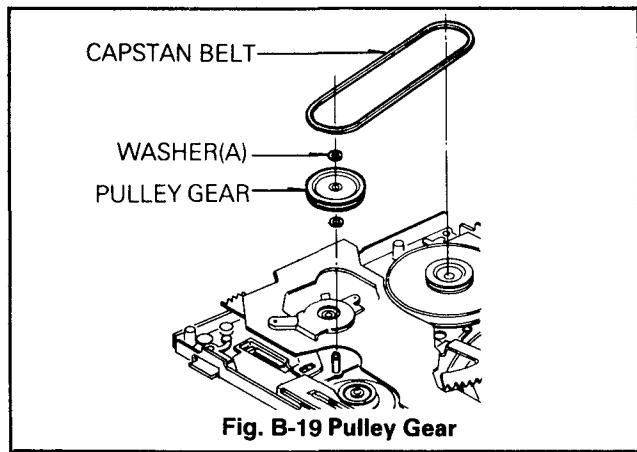

Fig. B-19 Pulley Gear
- 1) After removing the Supply Reel and supply Main Brake Assembly, remove the washer(C) and then remove the Idler Gear(A).
- 2) Remove the Washer(D) and remove the Idler Gear(B)
19. Pulley Gear Assembly(Fig. B-19)